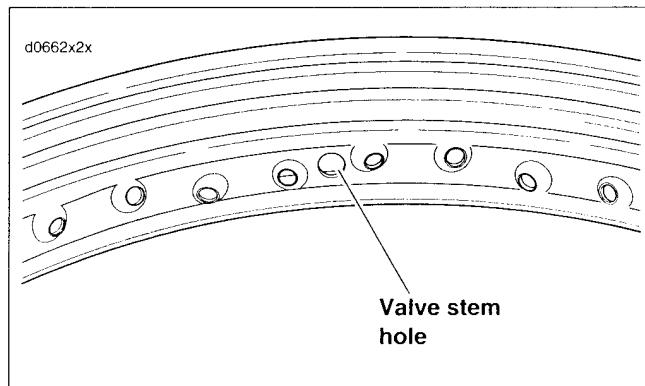

Figure 2-31. Valve Stem Location
- See Figure 2-31. The valve stem hole is centered of the rim; you do not have to worry about choosing the correct relationship between the rim and the hub.